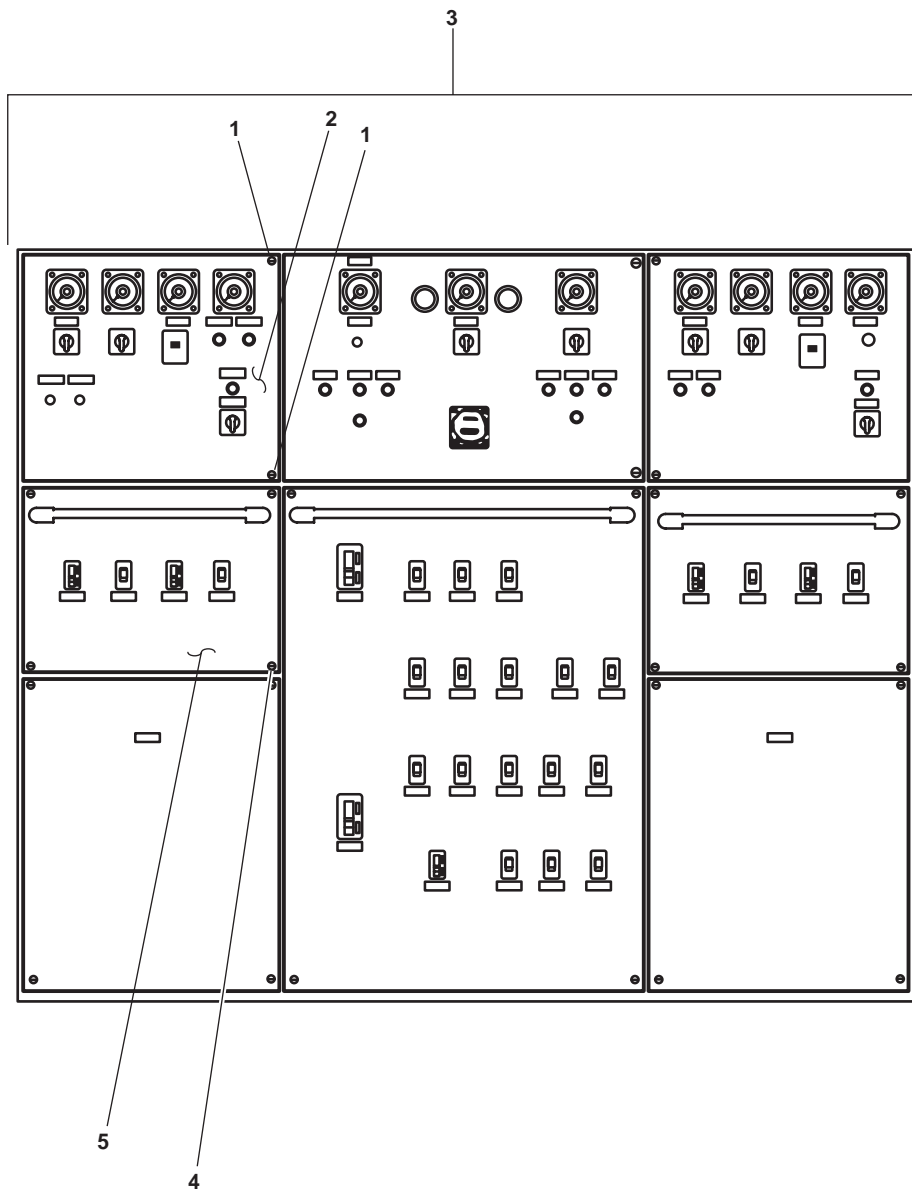

Figure 1. Main Switchboard
1. Loosen the two captive screws (figure 1, item 1) on the number 2 generator control panel (figure 1, item 2) of the main switchboard (figure 1, item 3).
2. Loosen the four captive screws (figure 1, item 4) on the inboard 460 volt panel (figure 1, item 5).
3. OPEN the number 2 generator control panel (figure 1, item 2).
4. Remove the inboard 440 volt panel (figure 1, item 5) from the main switchboard (figure 1, item 3).
7. Remove the fire and smoke detection panel from the main switchboard (figure 1, item 3).
3. Install the inboard 440 volt panel (figure 1, item 5) on the main switchboard (figure 1, item 3) and secure it by tightening the four captive screws.
4. CLOSE the number 2 generator control panel (figure 1, item 2) and secure it with the two captive screws (figure 1, item 1).